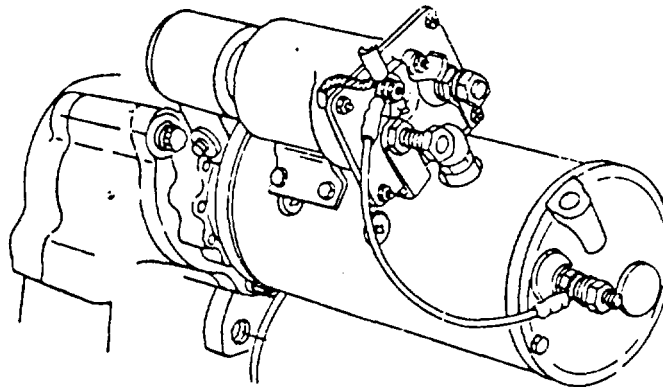

Figure 4-34.
Step 1. Check the starting motor solenoid (Figure 4-34).